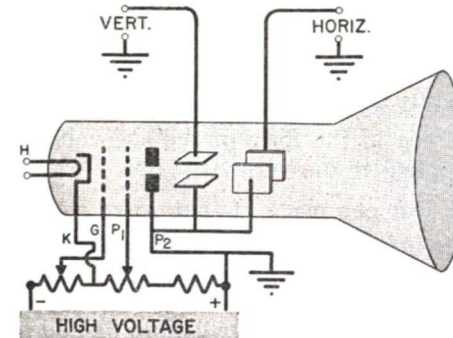

FIG. 3. The symbols used here are those commonly found on schematic diagrams representing the c.r.o. tube. Notice the connections to the deflecting plates.
► One plate of each pair, as shown in Fig. 3, is connected to anode P_2 so that the plates will normally be at the same potential as P_2 and thus not defocus the beam. Notice that it is the voltage difference between the plates which produces the deflection, not the fact that a connection is made to P_2 .